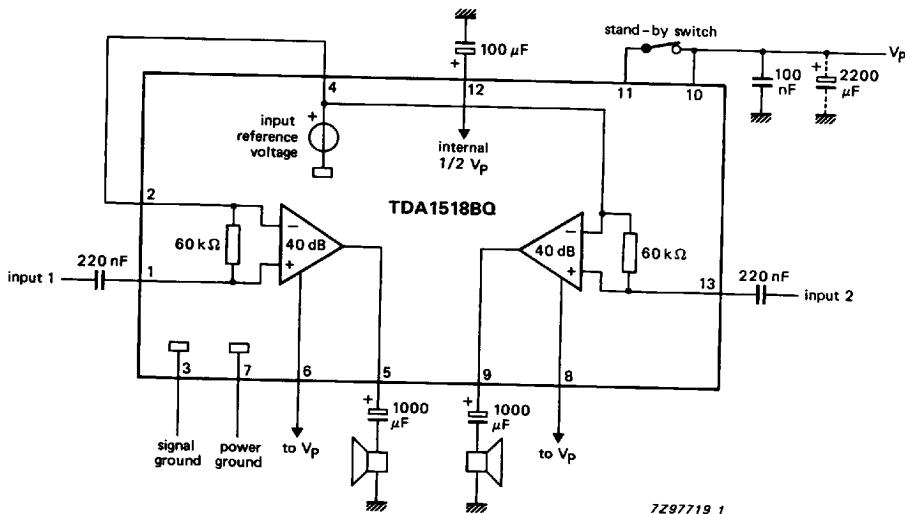

Fig. 3 Stereo application circuit diagram.
1. All characteristics, for stereo application are measured using the circuit shown in Fig. 3.